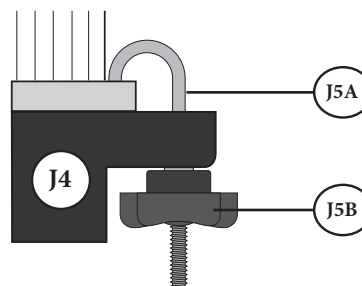

FIG. 14
- 14** Attach the Fine Dust Bin (J4) to the Filter with four J-Bolts (J5A) and four Thumb Nuts (J5B) as in [FIG. 14].